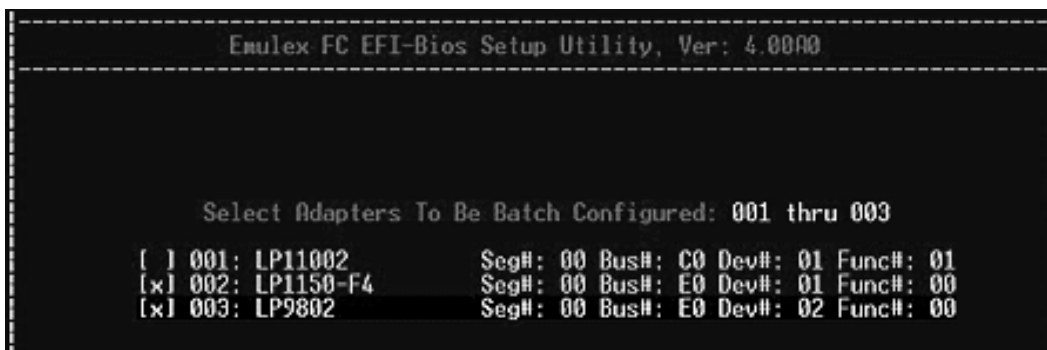

Figure 55: Select Adapters to be Batch Configured listing screen
3. Use the up and down arrows on your keyboard to select the source adapter for the configuration and press **<Enter>**. A menu of all adapters in your system, except the source adapter, is displayed (Figure 55).
- Enter the directory path and file name and press **<Enter>**. A list of the adapters in the system is displayed (Figure 55).